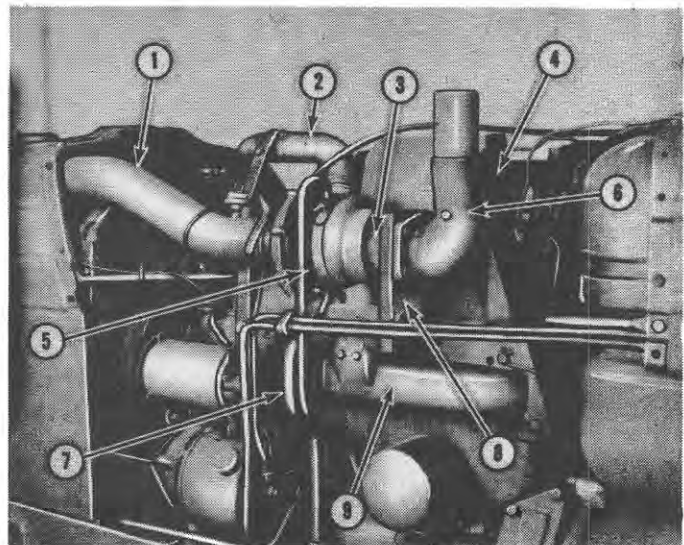

Figure 13
- Position a new gasket and the turbocharger on the manifold, Figure 13, at the same time locating the oil return tube on the cylinder block adapter. Secure the turbocharger with the four nuts and lock washers and tighten the nuts to a torque of 30-35 lbs. ft. (4.15-4.84 kgm).
7. Connect the turbocharger-to-intake manifold tube as shown in Figure 13, and secure it with the clamps.